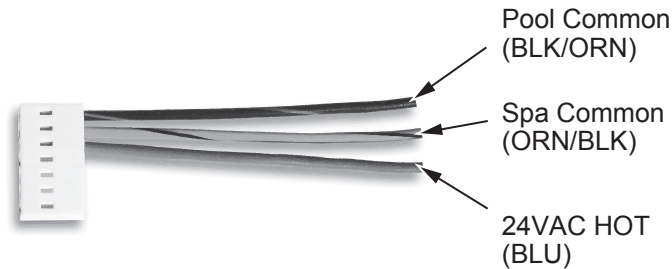

Figure 30. 7-Pin Remote Interface Harness
The P-156 heaters are equipped with the ability to work with external remote controls. The supplied 7-pin remote wiring connector supplies power out to either a toggle switch or the switch contacts of a third party remote. See **Figure 30**. The remote works by either making or breaking the circuit created by the remote wiring. Typically, a remote does not supply power to the heater, it only provides a switching function to turn the heater On or Off. **If your remote is supplying its own voltage to the heater, it will not work with this heater and may damage the digital circuit board.**
5. On the "Remote Interface Harness", connect the BLUE wire to one side of the "REMOTE" switch and connect the other side to either the ORANGE/BLACK wire for "SPA" operation or the BLACK/ORANGE wire for "POOL" operation. See **Figure 30**.
4. On the "Remote Interface Harness" connect the BLUE wire to one side of the "REMOTE" switch and connect the ORANGE/BLACK wire for "SPA" operation and the BLACK/ORANGE wire for the "POOL" operation. See **Figure 30**.